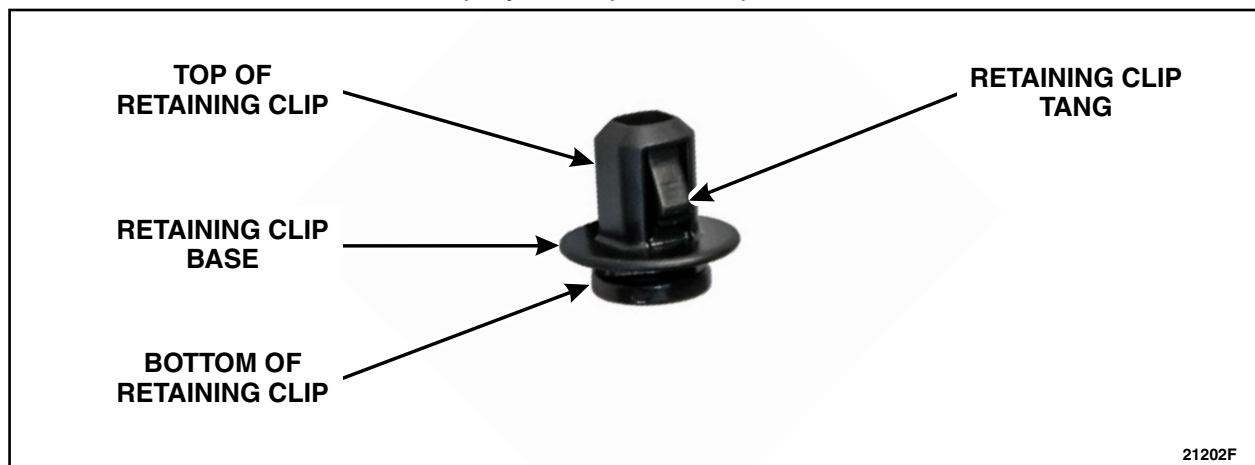

FIGURE 7
c. Inspect the retaining clips (7 per side) on the affected side without removing them from the roof rail base. See Figures 7, 8 and 9.